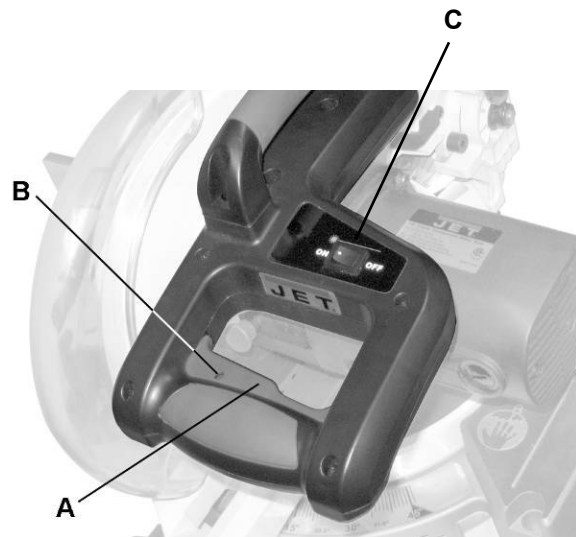

Figure 15
The laser is turned on with a switch located on the saw handle (C, Fig. 15). When left on indefinitely, a sensor will turn the laser off after 20 minutes. The switch must be reset (turned off for two seconds, then on again) to restart.
4. Squeeze the *trigger switch* (A, Fig. 15) to start saw.
2. Release trigger switch (A, Fig. 15) and wait for all moving parts to stop before moving your hands and raising the cutting arm.
Depress the trigger switch (A, Fig. 15).
Note: Make the On/Off switch child-proof by inserting a padlock through the hole (B, Fig. 15) in the trigger switch.